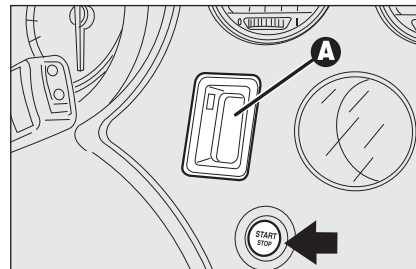

fig. 14
- electronic key reading device **A**-fig. 14 (set near the steering wheel);